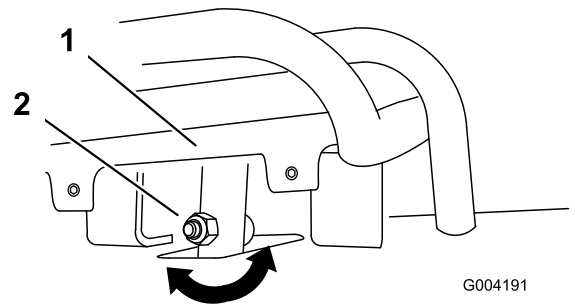
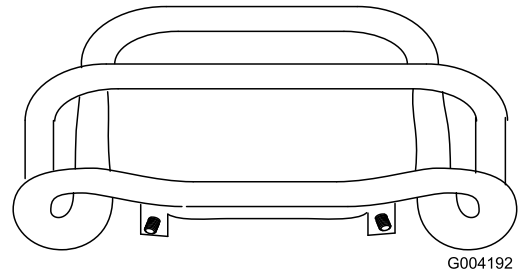

Figure 54
Figure 55
4. If the front of the traction control does not rest square and flush with the reference bar, loosen the flange nut and bolt in the stem of the traction control (Figure 54).
5. Adjust the traction control so that it rests flush against the reference bar when you pull it straight back (Figure 54 and Figure 55).